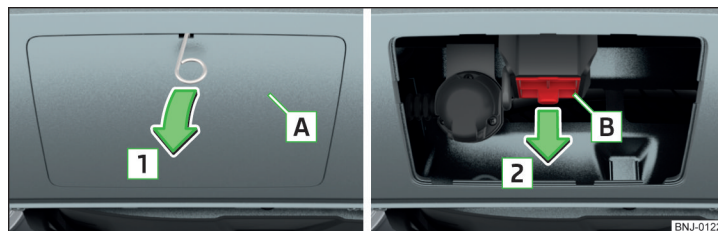

Fig. 154 Remove cap: on the rear bumper/for the receiving shaft
- Remove the cover cap **A** » Fig. 154 in the direction of arrow **1** using the on-board tool clamp for pulling off the wheel trims » page 167.
Store the caps **A** and **B** » Fig. 154 in a suitable place in the luggage compartment after removal.
- Insert the cover **B** » Fig. 154 on page 129 in the opposite direction to arrow **2**.
- Fix the cap **A** » Fig. 154 on page 129 aligning it with "check mark" in the lower bumper area.